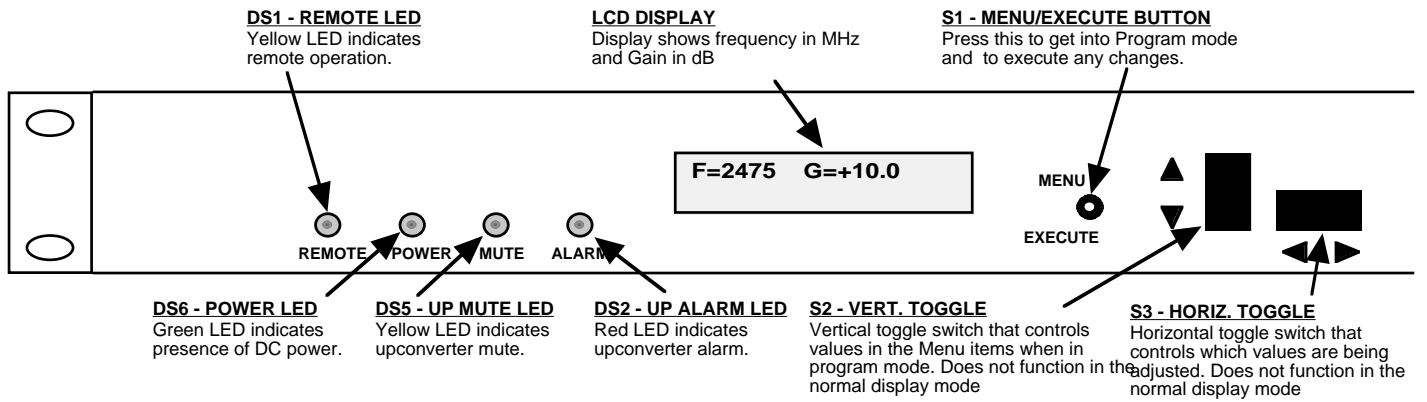

FIGURE 2.3 2015-25 Front Panel Controls and Indicators
7. Be sure DS6 (green, DC Power) is on and DS2 (red, Alarm) is off (Figure 2.3).
Alarm indications appear on the LEDs (see figure 2.3).